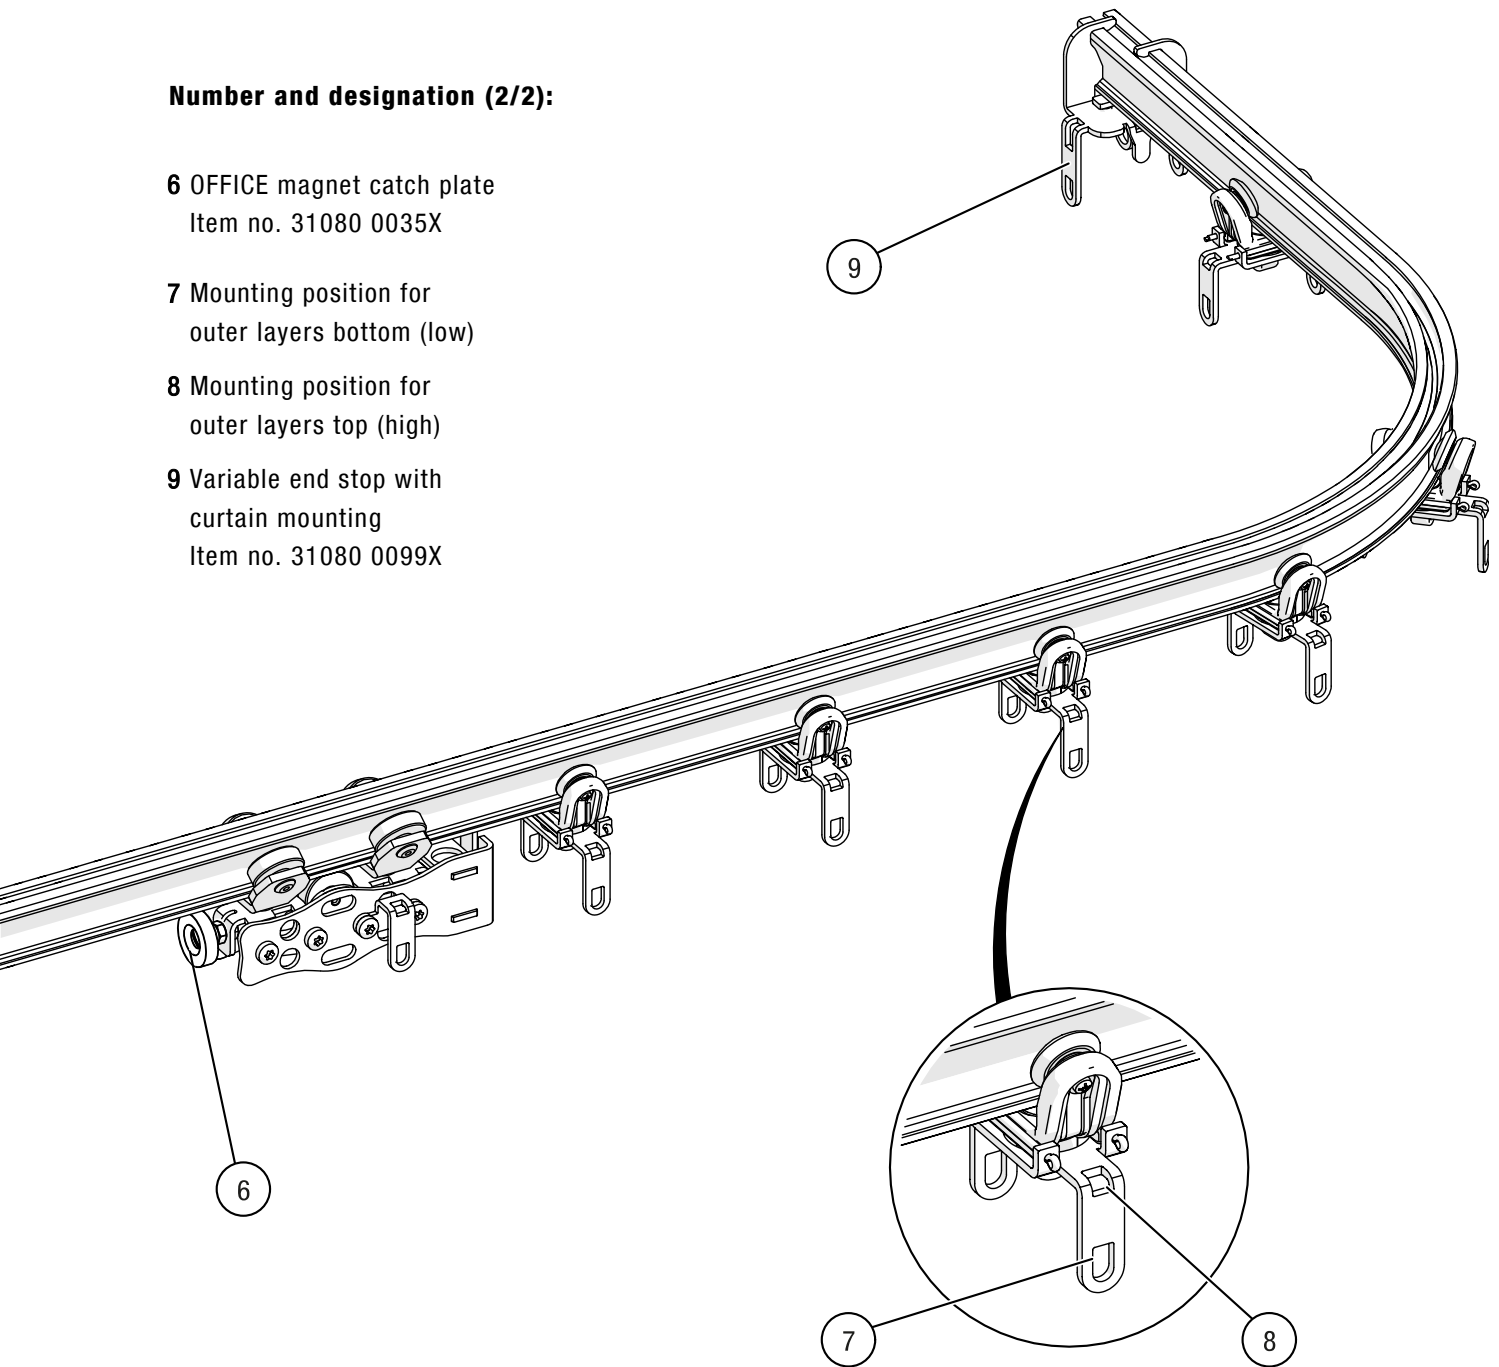
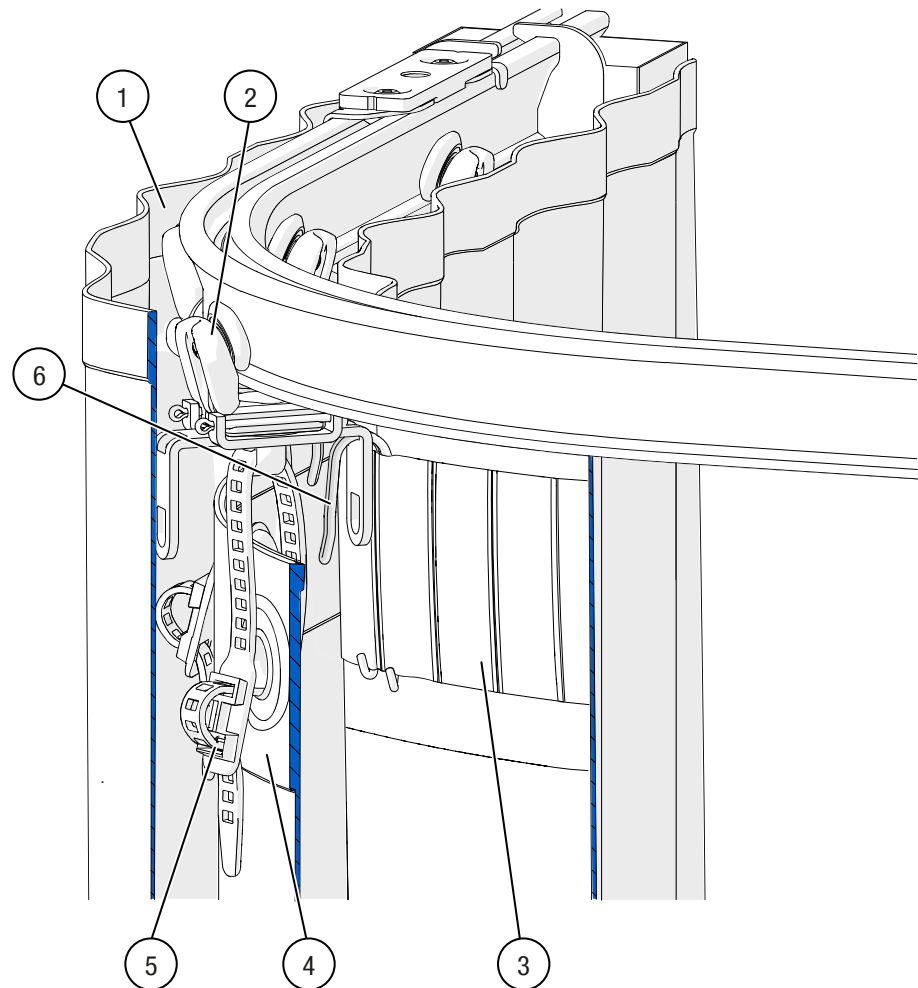

Fig. 3: Overview – G-TRACK – OFFICE track
Fig. 4: G-TRACK OFFICE – Section with inner and outer layers ("high" variant)
- Number and designation (1/2):** In the OFFICE version of the track system, the master runners are equipped with an OFFICE add-on set (2/Fig. 3) with mounts for the outer layers in two different mounting heights. With the OFFICE overlap arm add-on set (4/Fig. 3) an overlap of the curtain sections is achieved to obtain the acoustic properties. Furthermore, a coupling magnet (5/Fig. 3) can be attached to the master runners with a double overlap arm, and a magnet catch plate (6/Fig. 3) can be attached to the master runners without an overlap arm. The magnetic coupling serves to close and hold the curtain sections.
- The OFFICE double-wheel runners (3/Fig. 3) have, in addition to a 360° rotatable mount (for the curtain or inner layers) also side mounts for the outer layers.
- On the master and double-wheel runners, the outer layer can be attached in two different installation positions. The "low" installation position (see 7/Fig. 3) is used to hold outer layers flush with the bottom edge of the track (e.g., for ceiling integration). The upper "high" mounting position (see 8/Fig. 3) allows for flush-to-ceiling installation.
Open track ends are secured with end stops. With the help of the variable end stop (1/Fig. 3) the track is closed. Using the variable end stop with curtain mounting (9/Fig. 3) the curtain can be locked in the parking position with inner and outer layers. The end stop can be added subsequently at any desired point.
The pleating tape (3/Fig. 4) of the outer layers (1/Fig. 4) already contains pre-assembled OFFICE curtain hooks (6/Fig. 4). Depending on the application, these are hung into the upper or lower mount of the master and double-wheel runners (see also 7 and 8/Fig. 3; [► p. 13]).
The number of inner layers (4/Fig. 4) can be increased (also subsequently) up to 12 layers, thereby achieving a sound reduction index of up to 26 db.
The inner layers are attached to the double-wheel and master runners by means of soft ties (5/Fig. 4). Please note that double-wheel runners must be provided with outer layers on both sides.